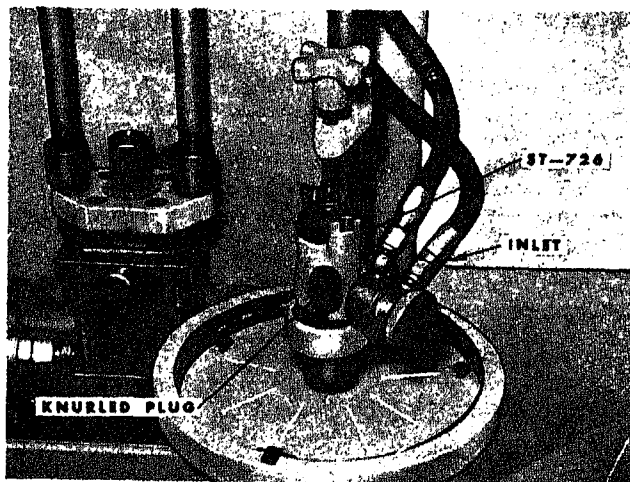

Fig. 6-1-42. Cylindrical injector in ST-668
6. Insert cylindrical injectors in ST-726 Adapter. Fig. 6-1-42.